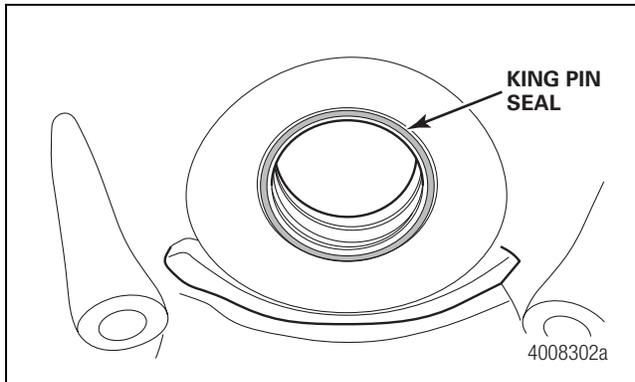

Figure 8.4
5. Install the upper and lower king pin seals on the inner side of both bushings. Install the seals with the flat edge facing in and the seal lip facing out. Figure 8.4.